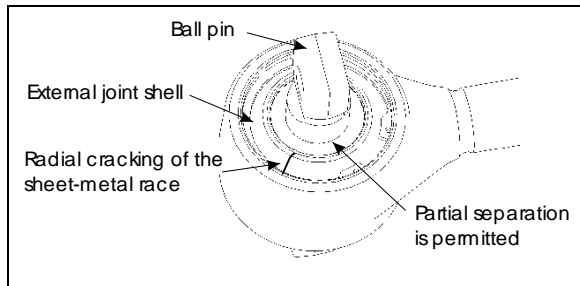

FIGURE 6: BALL JOINTS
- Radial cracking of the external sheet-metal race. (fig. 6)